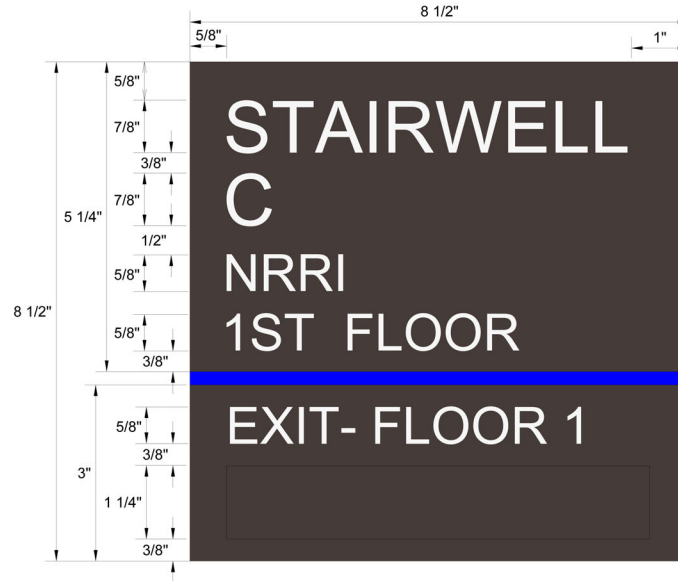

Figure 20.10
- 20.10. UMD E2 sign elevation shall comply with figure 20.10.